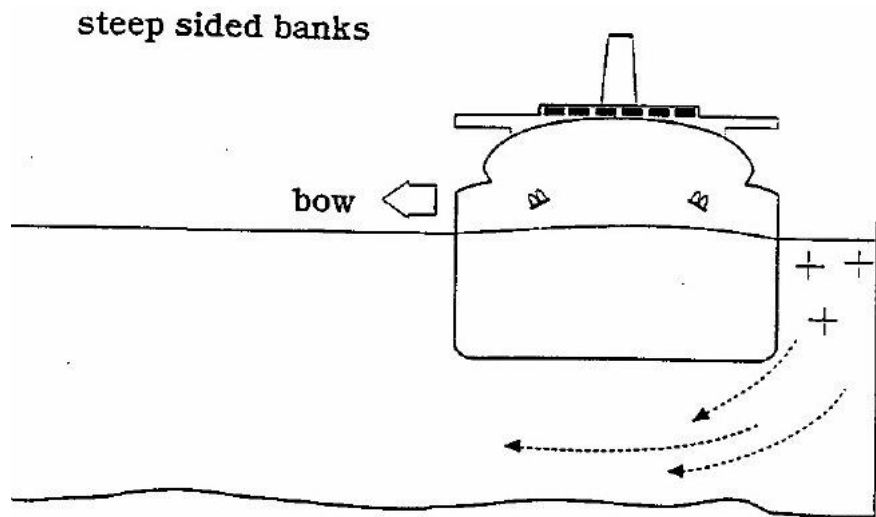

Figure 6-6 Bank configuration - steep sided
- It would be wrong to imply that bank effect is only experienced within the domain of canals and rivers with steep sided banks, as illustrated in figure 6-6. To a ship running in shallow water, with adjacent but gently shelving mud or sand banks, such as low lying estuarial areas, figure 6-7, the effect can be far more insidious and violent.